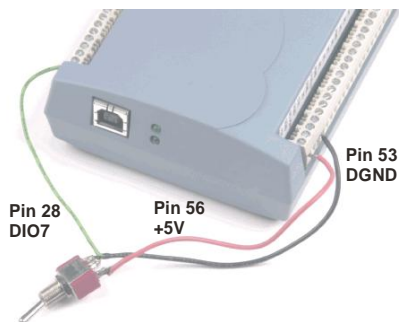
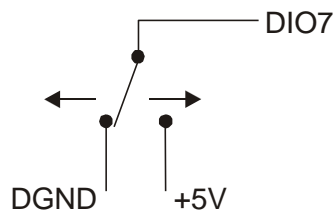

Figure 8. DIO7 detecting the state of a switch
Figure 9. Schematic showing DIO7 detecting the state of a switch
When you configure the digital bits for input, you can use the digital I/O terminals to detect the state of any TTL level input. Refer to the switch shown in Figure 8 and the schematic shown in Figure 9. When the switch is set to the +5 V USER input, DIO7 reads *TRUE* (1). If you move the switch to DGND, DIO7 reads *FALSE* (0).